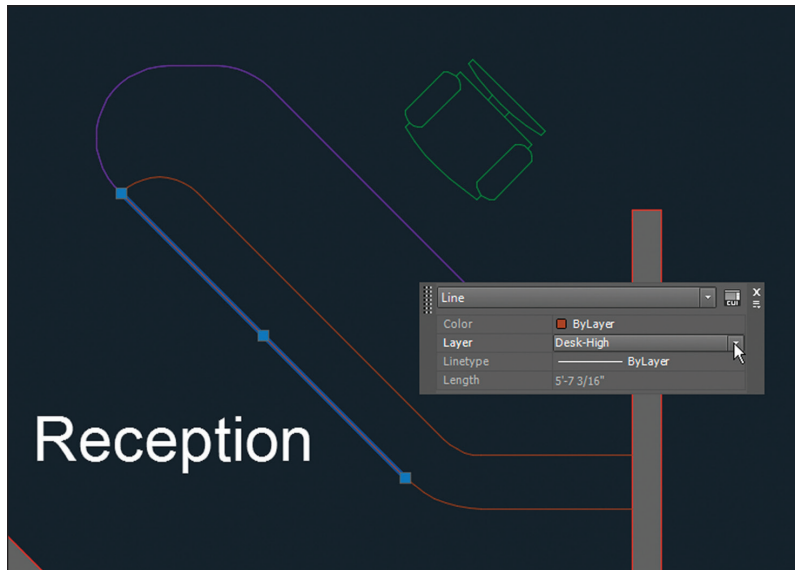

FIGURE 6.2 Targeting an object property using Quick Properties mode
3. Click the line of the desk immediately adjacent to the Reception text object; the Quick Properties panel appears at the top right of the selected object on the drawing canvas. Click the Desk-High layer name to activate the Layer drop-down menu (see Figure 6.2).